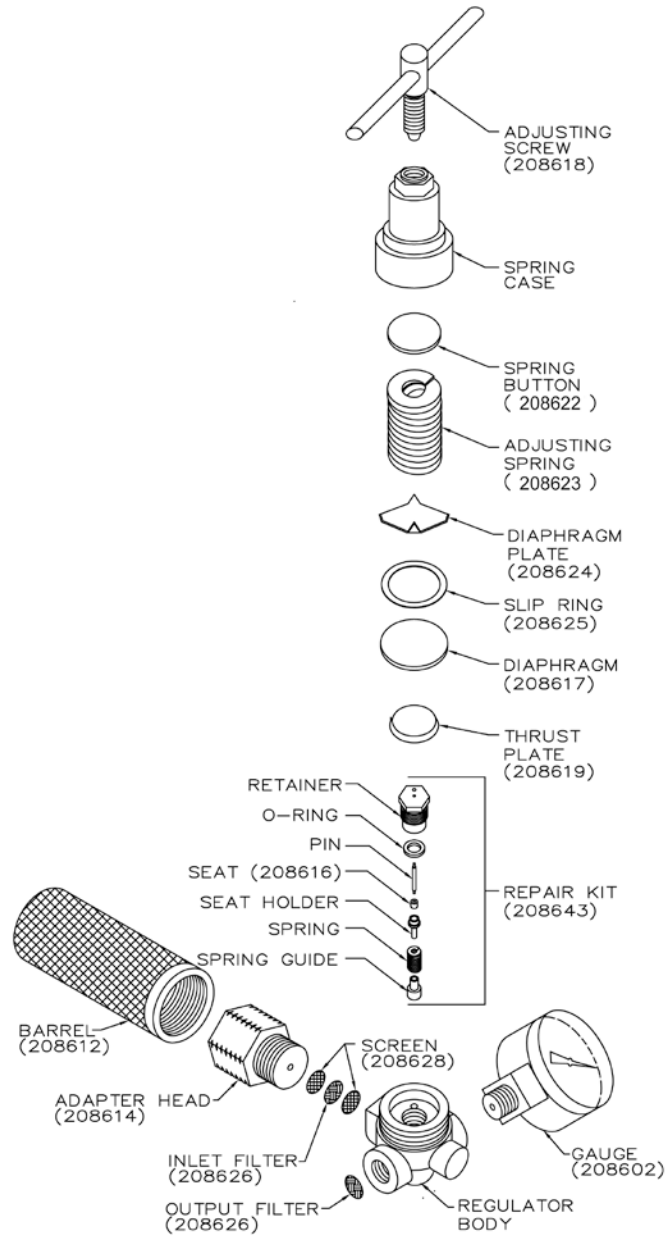

Figure 8-1 CO₂ Regulator Assembly, P/N 208615
9. Adjust the regulator to about 5 psig (35 kPa) on gauge [21]. Then adjust the valve [6] for 0.3 to 0.5 liters/minute on flowmeter [29]. (For maintenance instructions for regulators, refer to Section 8 and Figure 8-1).
Refer to Figure 8-1.
If regulator connections do not leak, the seat and pin probably need replacement. Use the following procedure. Refer to items shown on Figure 8-1.